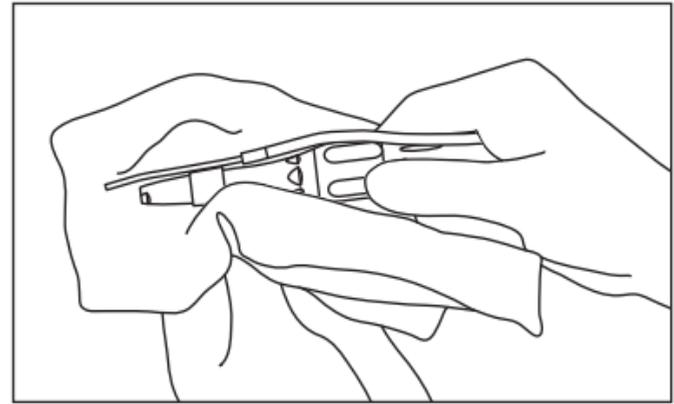

Fig. 8
4) Wipe the exterior of the handpiece clean using a cloth moistened with disinfectant or ethanol with a concentration of 60 - 90%. (Fig. 8)